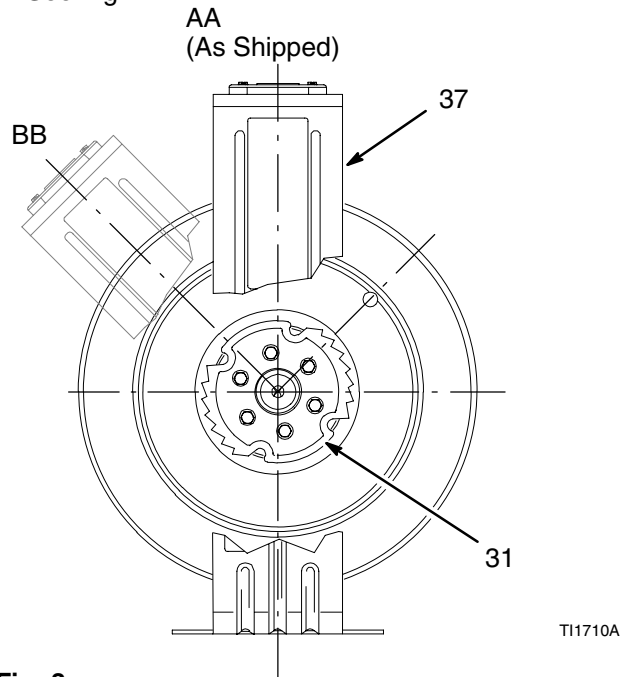

Fig. 3
3. **Determine the desired position of the roller support arm (37).**
- The hose reel is factory-assembled and shipped with the roller support arm (37) in position AA. If position AA or BB is desired, continue with step 4. See Fig. 3.